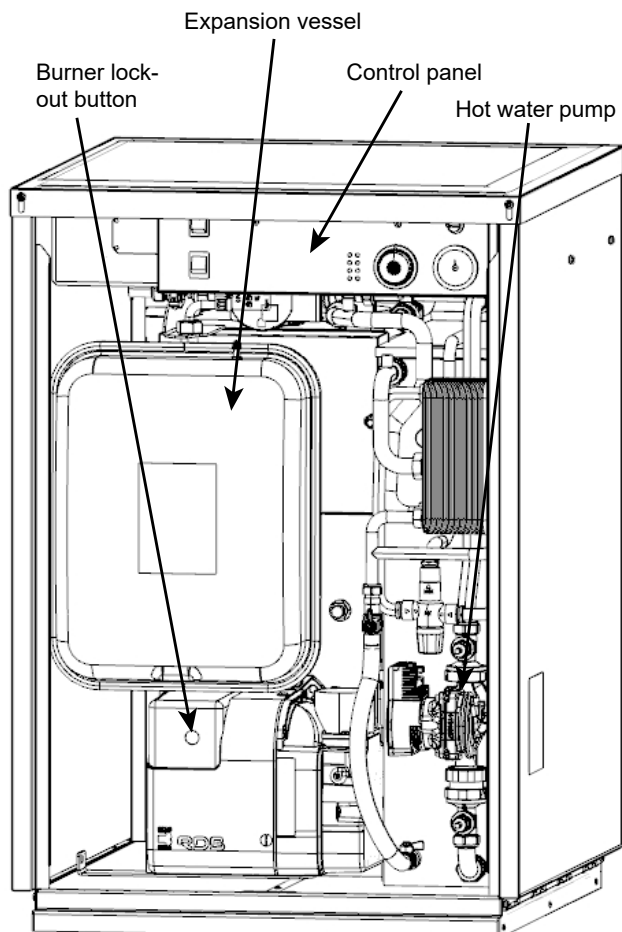
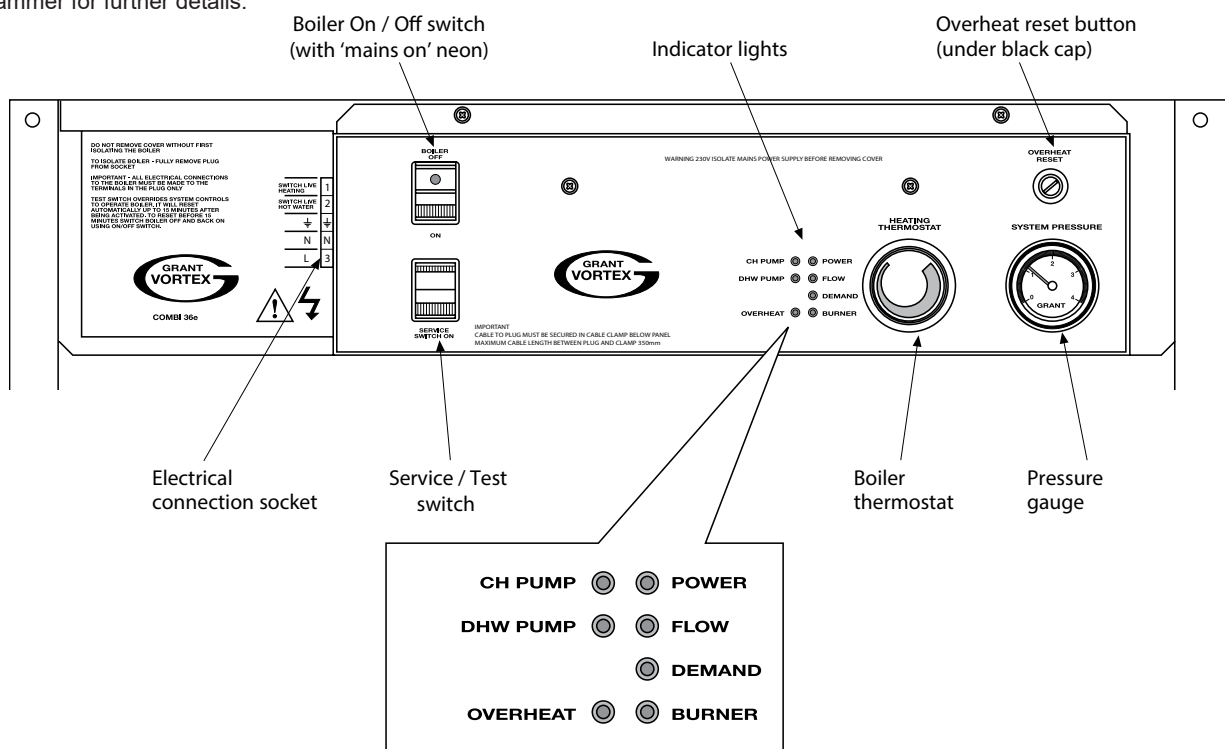

Figure 1-1: Boiler components
Figure 2-1: Vortex Outdoor combi boiler control panel
To gain access to the boiler controls, remove the front casing door by turning the handle at the bottom anti-clockwise, pulling the door out at the bottom and withdrawing it from the casing to reveal the boiler components and controls as shown in Figure 1-1.
5. Check if the burner 'Lock-Out' reset button on the burner body (refer to Figure 1-1 for location) is lit.
Refer to Figure 1-1 for the location of the control panel within the boiler casing and Figure 2-1 for the details of the control panel.
If your boiler goes off and you try to light it but nothing happens and the 'Lock-Out' reset button on the burner is not lit, the overheat thermostat has probably operated. The OVERHEAT indicator LED on the control panel will also be flashing if the overheat thermostat has tripped (see Figure 2-1).
To reset the overheat thermostat, unscrew the small plastic cap marked "reset" (see Figure 2-1), press the button and replace the cap.
A test switch is fitted to the control panel (see Figure 2-1) to allow the Service Engineer to test-fire the boiler without requiring access to the inside of the property.
These 7 red lights, located on the boiler control panel, indicate the operating situation of the boiler. Refer to Figure 2-1 for the position of these lights on the boiler control panel.